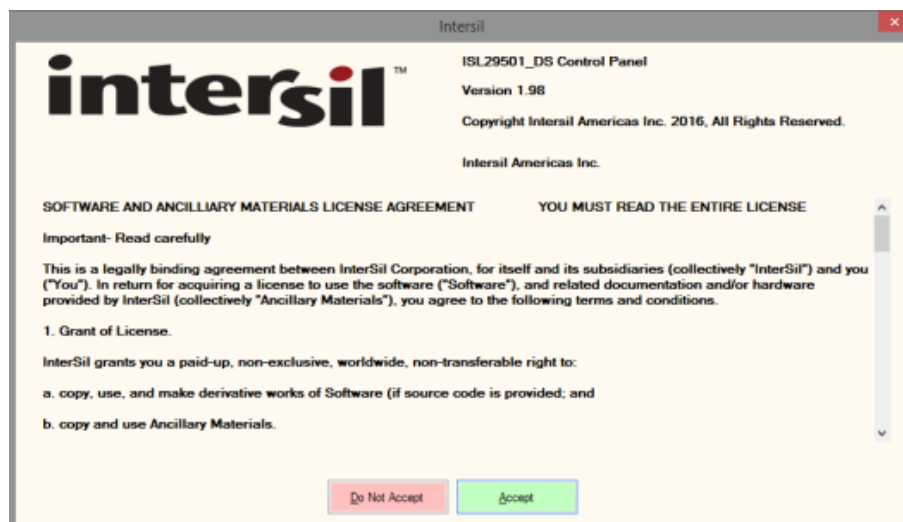

FIGURE 2. INTERSIL LICENSE SCREEN
2. The Intersil license agreement shown in Figure 2 will appear. Read the License agreement, because you must accept the agreement by clicking the Accept button to continue. You must scroll to the end of the license before you can accept the agreement.